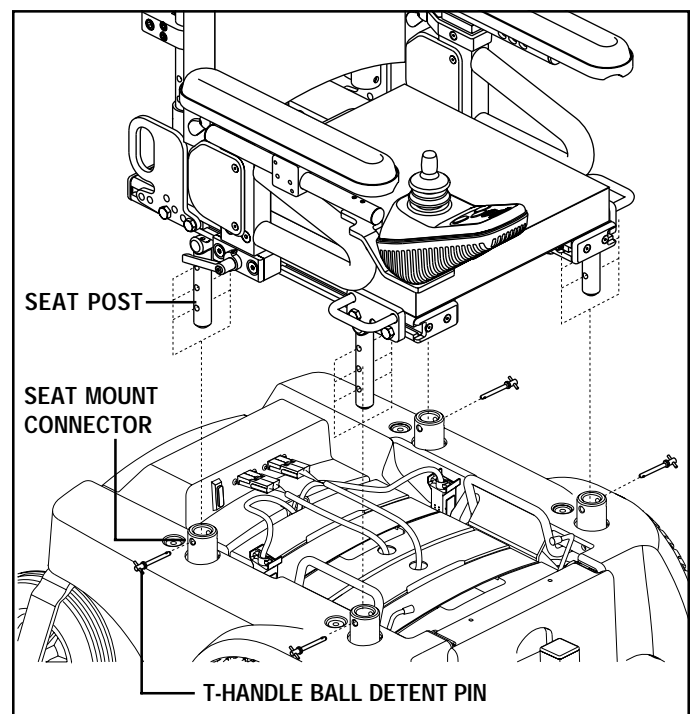

Figure 17. Removing the Seat
2. Remove the T-handle ball detent pins that secure the seat base to the power base. See figure 17.
4. Align the locating hole in the seat post with the one in the seat mount connector, and reinsert the T-handle ball detent pin for each post. See figure 17.